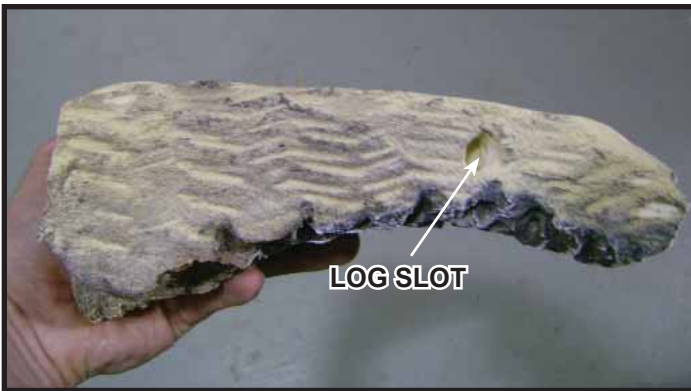

Figure 11. Log #4
**Log #4 (SRV2225-705):** Mate the slot on the bottom of Log #4 with the right log pin. Refer to Figure 11 for location of log slot. Rotate the right end of the log clockwise until the groove on the end of the log mates with the grate bar.